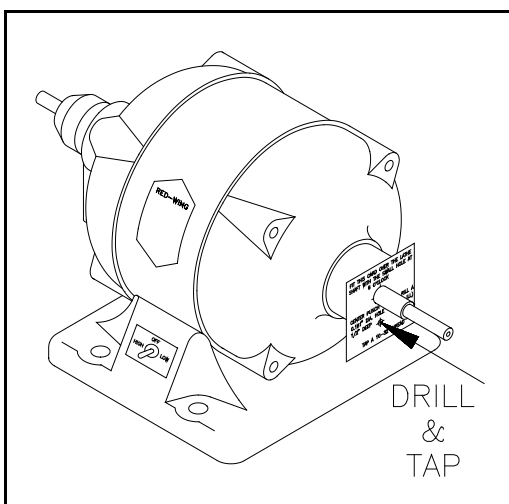

Figure 7. Template
- 4.3 Tighten the height adjustment handle. Install the flat washer and screw into the hole that was tapped to retain the bracket. See Figure 7.